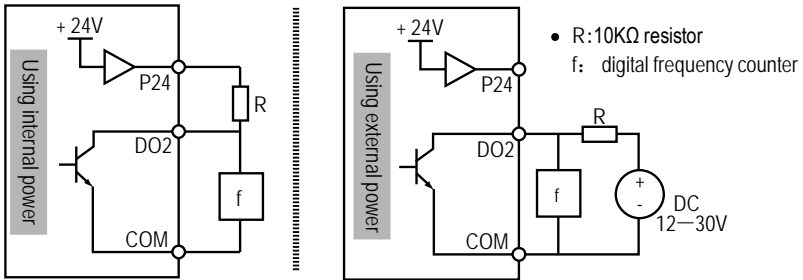

Figure 4-22 DO2 terminal connection
2. The frequency signal output terminal DO2 can use the inverter's internal 24V power supply or the external power supply. The connections are as shown in Figure 4-22.